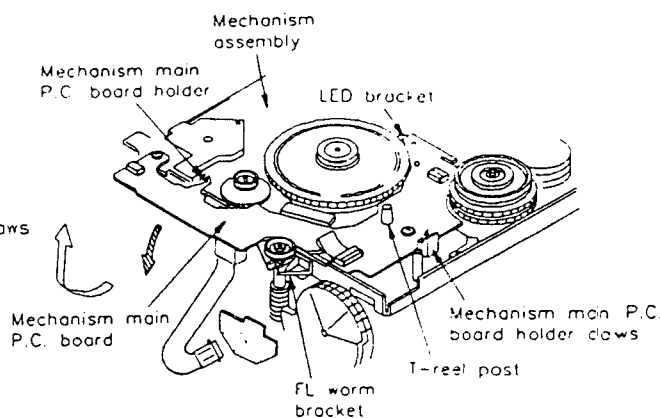

Fig. 4-15-5
6. Unhook the mechanism main P.C. board from the mechanism main P.C. board holding claws on the front mechanism assembly and lift the mechanism main P.C. board slightly. (Fig. 4-15-5 and 4-15-6)